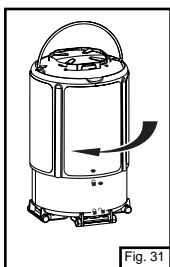

Fig. 31
- ⇒ Rotate the upper carry case as shown to the lock position. (Fig. 31)